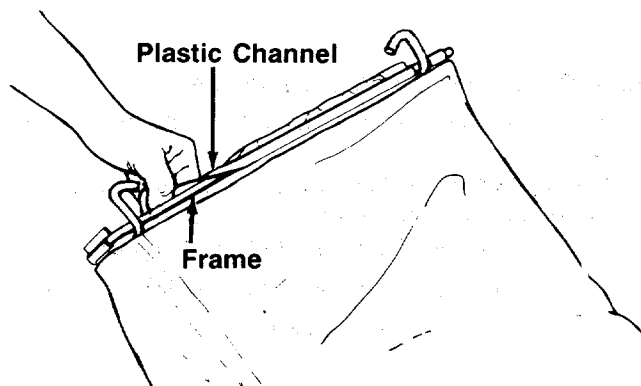

FIGURE 11.
4. Secure front of bag to frame by working the plastic channels on bag over frame. See figure 11.